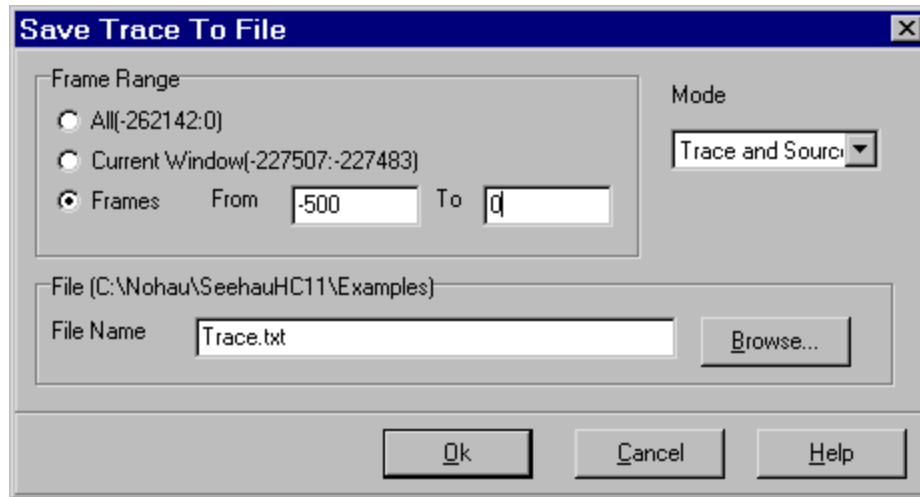

Figure 135. Save Trace to File Dialog Box
- **Save to File:** Opens the **Save Trace To File** dialog box where you can save the contents of the trace buffer as text to a file (Figure 135).